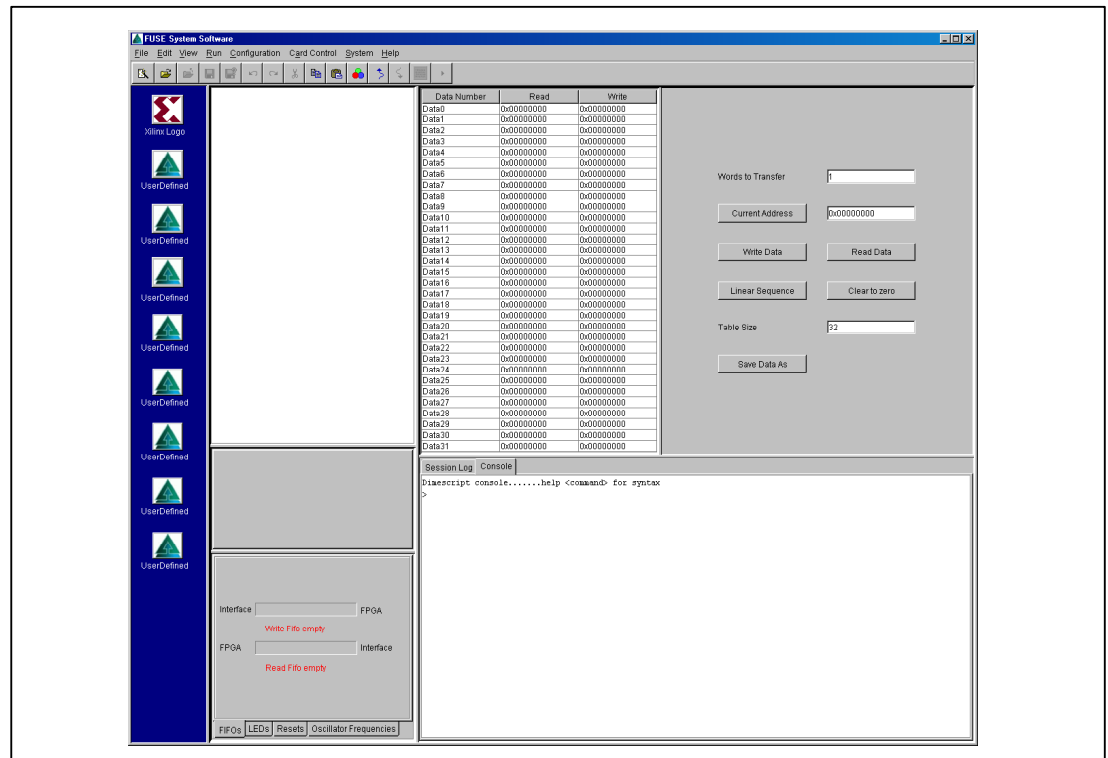

Figure 16: Button with new name and icon
- Click on **OK**. The new button details are now displayed in the FUSE GUI as shown in Figure 16: